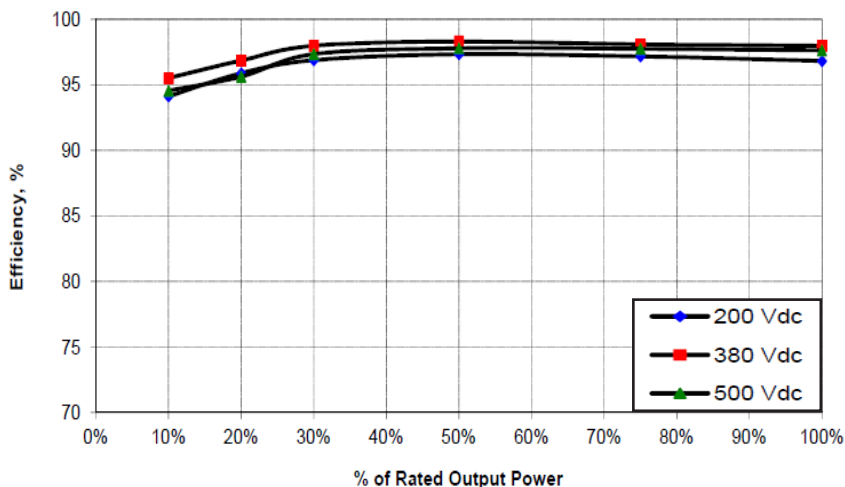

Figure 4: PVI 3800TL Efficiency Plot at $240V_{ac}$
1. Using the mounting bracket as a template, mark four screw holes onto the wall. For 16 in. (40.6 cm) on center stud mounting, use the four holes, marked A in Figure 4 on the prior page. Make sure the holes are in the center of each stud before marking the drill location.